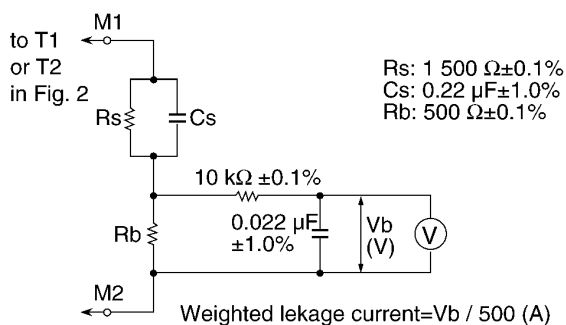

Fig. 1
1. Prepare the measuring circuit as shown in Fig.1.